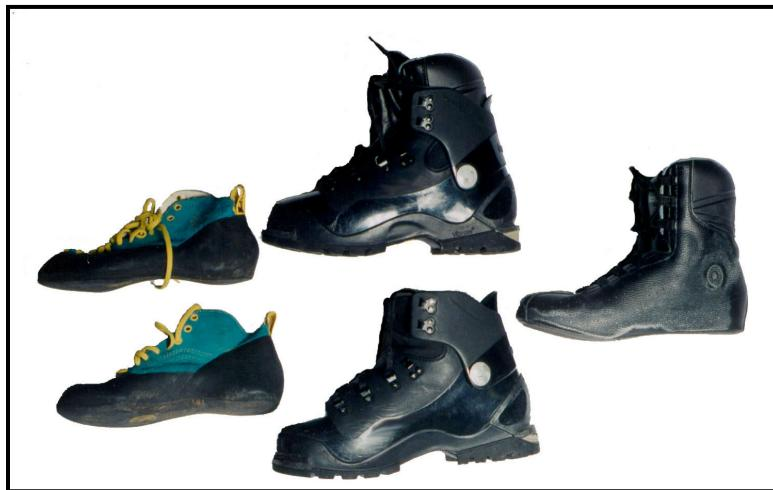

Figure 3-1. Climbing shoes and plastic mountaineering boots.
(1) Climbing shoes are made specifically for climbing vertical or near vertical rock faces. These shoes are made with a soft leather upper, a lace-up configuration, and a smooth “sticky rubber” sole (Figure 3-1). The smooth “sticky rubber” sole is the key to the climbing shoe, providing greater friction on the surface of the rock, allowing the climber access to more difficult terrain.
(2) The plastic mountaineering boot is a double boot system (Figure 3-1). The inner boot provides support, as well as insulation against the cold. The inner boot may or may not come with a breathable membrane. The outer boot is a molded plastic (usually with a lace-up configuration) with a lug sole. The welt of the boot is molded in such a way that crampons, ski bindings, and snowshoes are easily attached and detached.